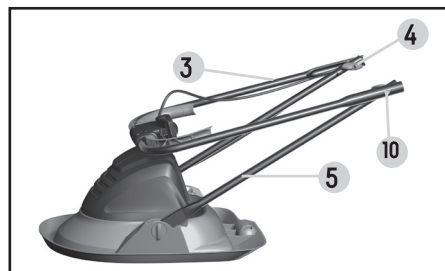

Fig. 4
- 4 Fix the upper handle (3) section to the lower handle (5). Use the bolts (10) and wing nuts (4) provided. There are two possible height positions. Choose the one most suitable to the operator's height. (Fig. 4)
When the two wing nuts are loosened, the handle can be folded for easy storage. (Fig.4) Ensure the power cable is not caught between the folding sections.